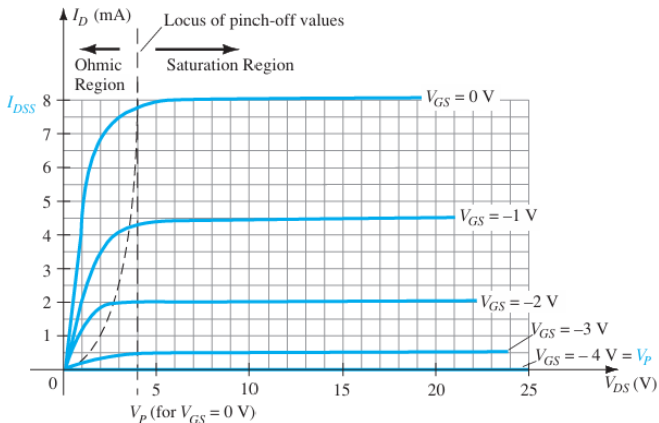

Figure 9: n-Channel JFET characteristics with $I_{DSS} = 8$ mA and $V_P = -4$ V.
- The region to the left of the pinch-off locus of Fig. 9 is referred to as the ohmic or voltage-controlled resistance region.